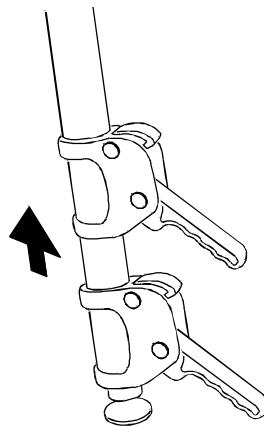

Fig 13
- 5 Stay at the same end and retract the middle legs by lifting the locking catch and sliding the middle sections into the top sections (Fig 13). Lower to the floor.